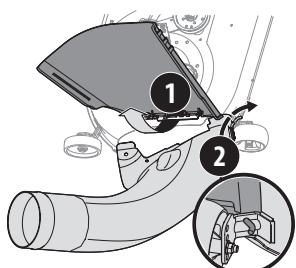

Figure 19
1. With the tractor's discharge chute raised up and held open (1), install the boot by placing the boot mounting rod into the chute mounting tab (2), as shown in Figure 19.